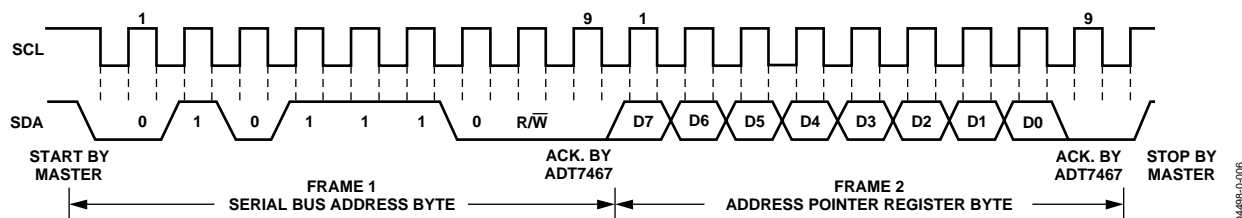

Figure 17. Writing to the Address Pointer Register Only
- If the ADT7467's address pointer register value is unknown or not the desired value, it must first be set to the correct value before data can be read from the desired data register. This is done by performing a write to the ADT7467 as before, but only the data byte containing the register address is sent, because no data is written to the register. This is shown in Figure 17.